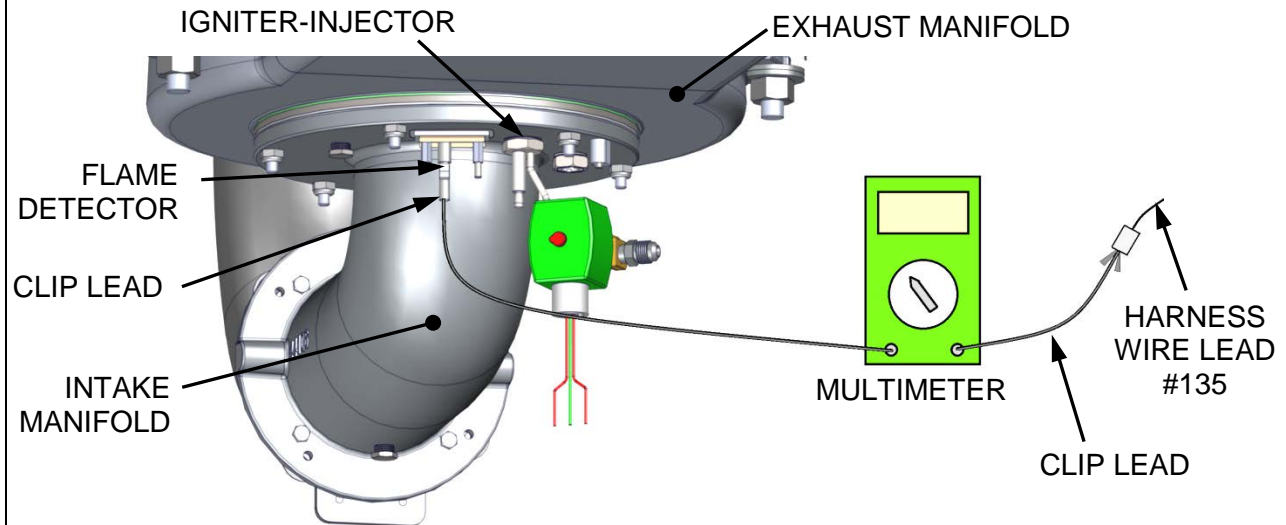

Figure 4-3. Flame Strength Set-Up Using Multimeter
During Combustion Calibration, the flame strength generated by the flame detector is measured using a multimeter set to the μA scale. The flame detector is mounted on the intake manifold flange as shown in Figure 4-3.
1. Refer to Figure 4-3 and remove the right side panel from the unit to access the flame detector.
2. Disconnect the flame detector wire lead #135 from the detector and connect the multimeter in series with the wire lead using alligator clips as shown in Figure 4-3.